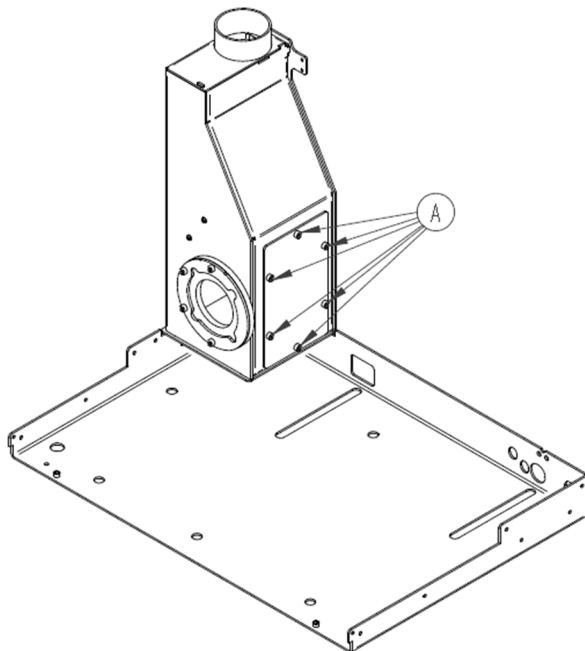

Figure 51 - Smoke box cover
- The smoke box is located at the rear left of the equipment (Figure 51). The gasket between the fume box and the extractor can be checked in this fume box. The condition of this red gasket must be checked during maintenance. It must be free of cracks or cuts and must maintain its elasticity (it must not be rigid). If it is not in good condition, it must be replaced (CO0510000750000).
- The smoke box (Figure 51) referred to in the previous point has a side cover (right side from the front) fixed with 6 DIN 912 M6x12 screws. It can be accessed using an Allen key 5.